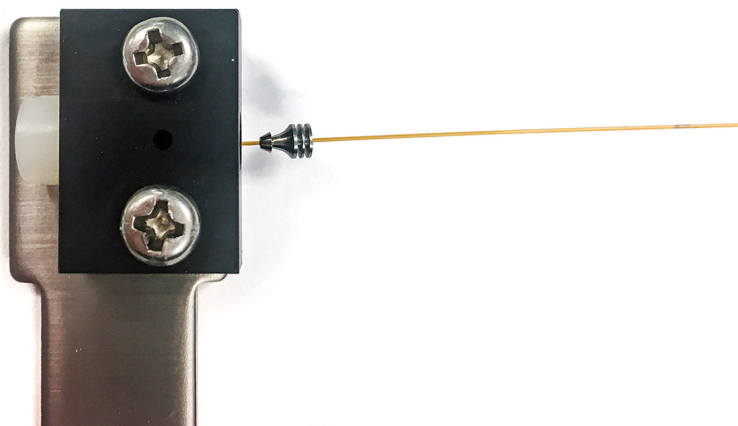

Figure 8. Thread the internal nut into the swaging tool
- 5 Thread the internal nut into the swaging tool until finger tight. See **Figure 8**.